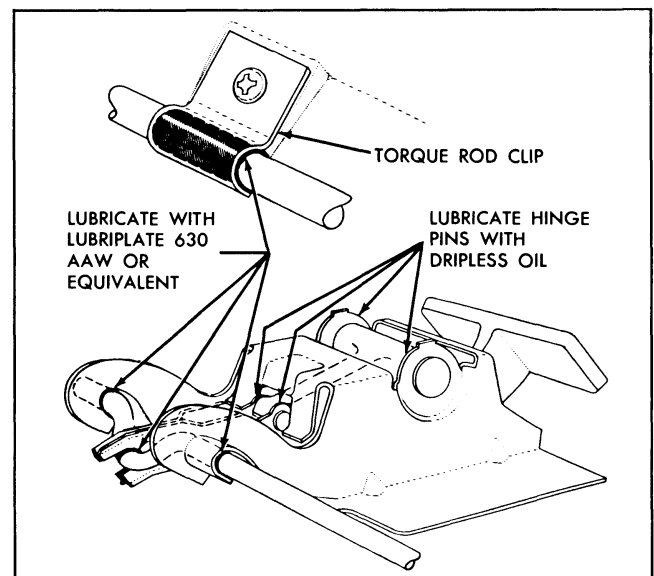

Fig. 15-14 Back Door Hinge and Torque Rod Lubrication
1. Lubricate both right and left hinge pivot pins with an approved dripless oil (Fig. 15-14).
NOTE: When installing hinge torque rod make certain torque rod is properly engaged with hinge (Fig. 15-14) and align torque rod retainer with
4. After installation of torque rods, lubricate torque rod frictional surfaces on both right and left hinges and frictional surfaces of both torque rod clips with "Lubriplate" No. 630AAW or equivalent (Fig. 15-14).
4. Using a suitable length of pipe over end of torque rod, remove tension of torque rod from retainer. While tension of torque rod is removed from retainer, loosen retainer attaching bolts (Fig. 15-14), adjust retainer forward or rearward, as required; then, tighten retainer attaching bolts.
5. Lubricate both right and left hinge pivot pins with an approved dripless oil (Fig. 15-14). Lubricate torque rod frictional surfaces on both hinges and frictional surfaces of both torque rod clips with "Lubriplate" No. 630AAW or equivalent (Fig. 15-14).